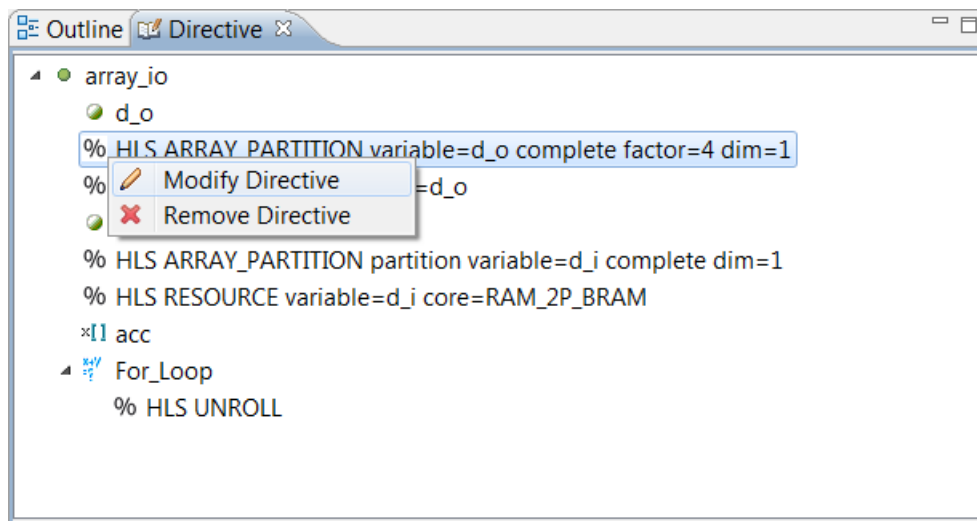

Figure 78: Modifying the Directive for d_o
4. In the Directive tab, select the existing partition directive for d_o as shown in Figure 78.